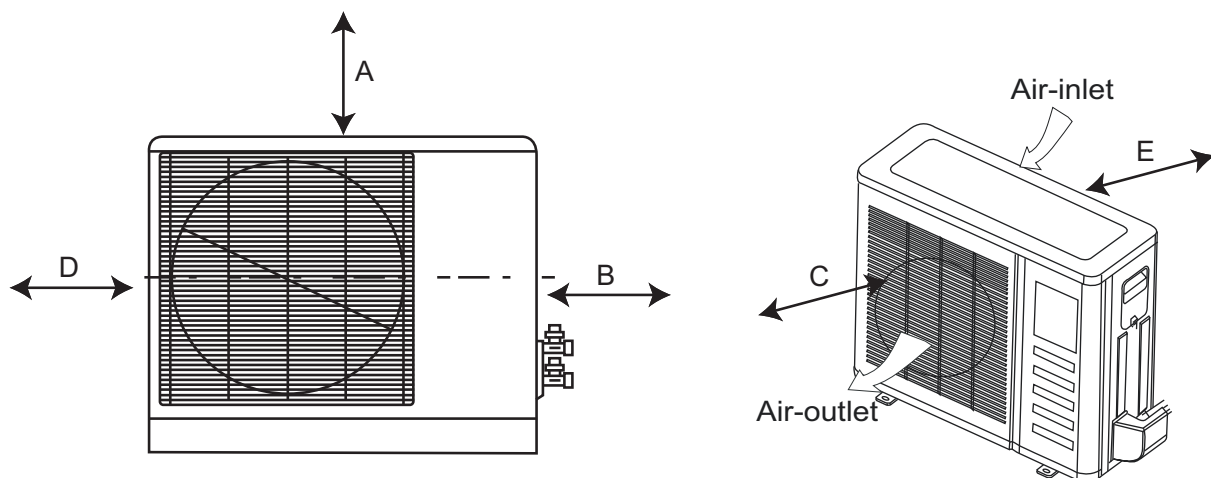

Fig. 7 — Clearances
Allow sufficient space for airflow and unit service. see Fig. 7 — on page 11 for the minimum required distances between the unit and walls or ceilings.
- A location with appropriate clearances as outlined (see Fig. 7 — on page 11).